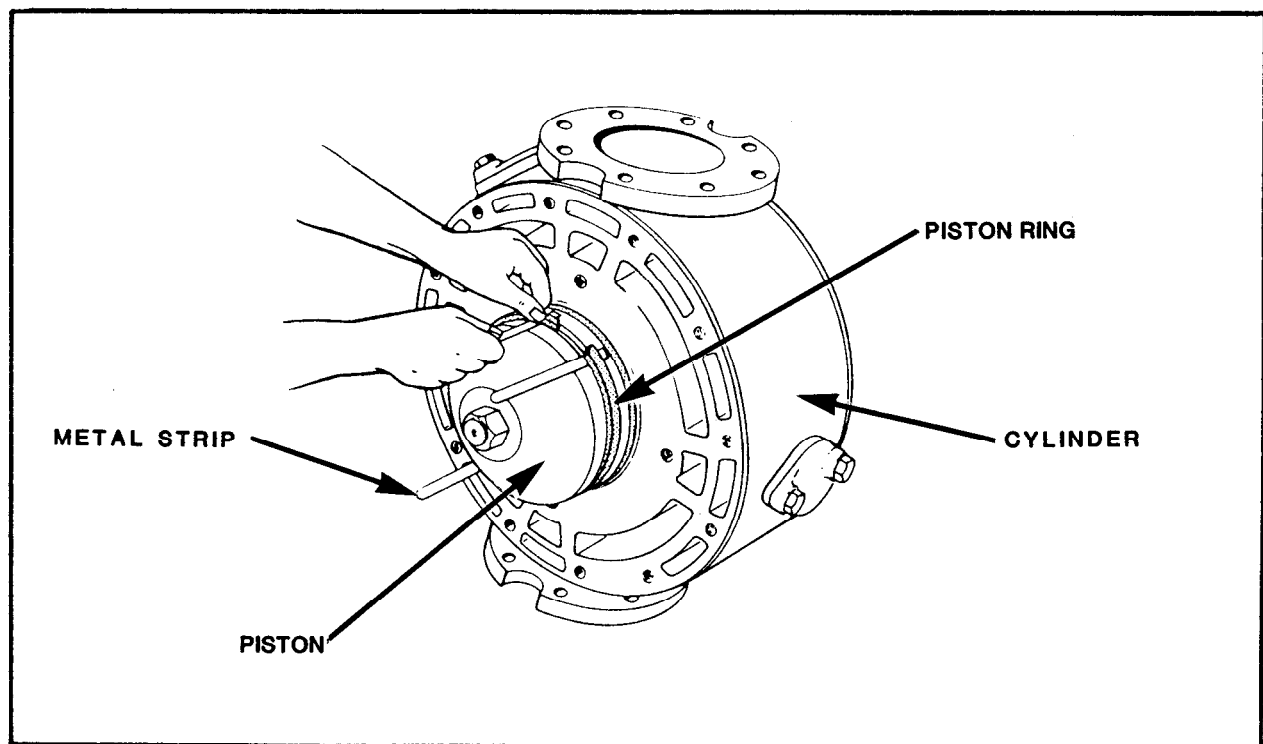

FIGURE 2-2. Installing Piston Rings
8.5 Piston Rings. When replacing worn piston rings, the new rings must be tried in the cylinder for fit. If the cylinder wall is badly scored or out of round, rebore the cylinder, or if cylinder liners are fitted, replace them. If necessary to file for end clearance, take care to file the ends parallel. Clean the ring grooves and remove any carbon deposits before installing the new rings. To install new rings, place several metal strips not more than 0.032-inch thick between the piston and rings (figure 2-2). Slide the new rings over these strips until they are centered over the grooves and then pull out the strips. Make sure the ring is free by rotating it in its groove. Stagger the ring gaps of succeeding rings so they are not in line. Use a ring clamping device when reinstalling the piston. If this is not available, wire the rings tightly so they enter the bore easily. Consult the manufacturer's instructions for carbon ring replacement.